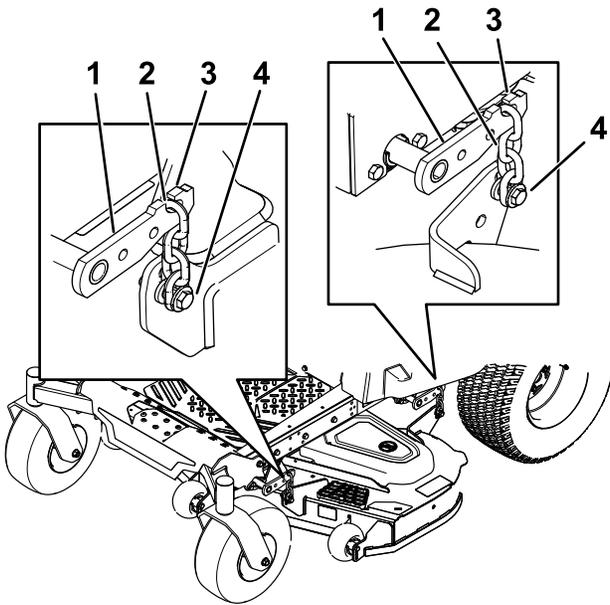

Figure 61
- Remove the chains from the hooks on the deck-lift arms (Figure 61).
- Lift the rear of the mower deck and attach the chains to the rear lift arms (Figure 61).
- Attach the front chains to the front lift arms (Figure 61).